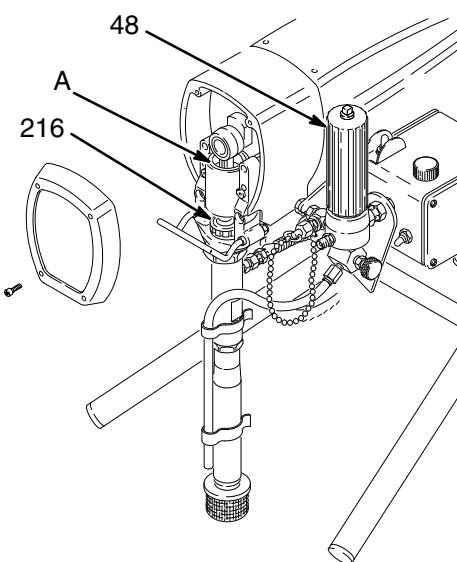

Fig. 6
1. **Check the packing nut/wet-cup (216) daily.** Relieve the pressure. Keep the packing nut/wet-cup 1/3 full with TSL at all times to help prevent fluid buildup on the piston rod and premature wear of packings. Tighten the packing nut just enough to stop leakage. Overtightening may cause binding and excessive packing wear. Use a screwdriver and light hammer to adjust the nut. See Fig. 6.
2. **Clean the fluid filter (48) often** and whenever the sprayer is stored. First relieve pressure. See manual 307-273 for the cleaning procedure.
3. **Fill the connecting rod cavity (A)** with motor oil every 100 hours of operation. Relieve pressure first. See Fig. 6.